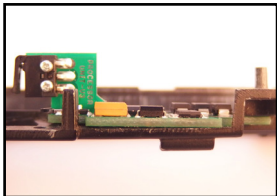

Fig. 3 - Processor unit board shouldn't be bend in the gearbox
5. Insert processor unit in place of the original trigger contacts. If necessary, carefully grind gearbox or processor unit to fit into the place. Don't damage the signal paths in the processor unit. Be sure that the processor unit board isn't bend in the gearbox - see Fig. 3. Place the processor unit on the highest position in the gearbox. Secure processor unit in the place with original screw from trigger contacts. If it isn't fit, then use screw included in the package.